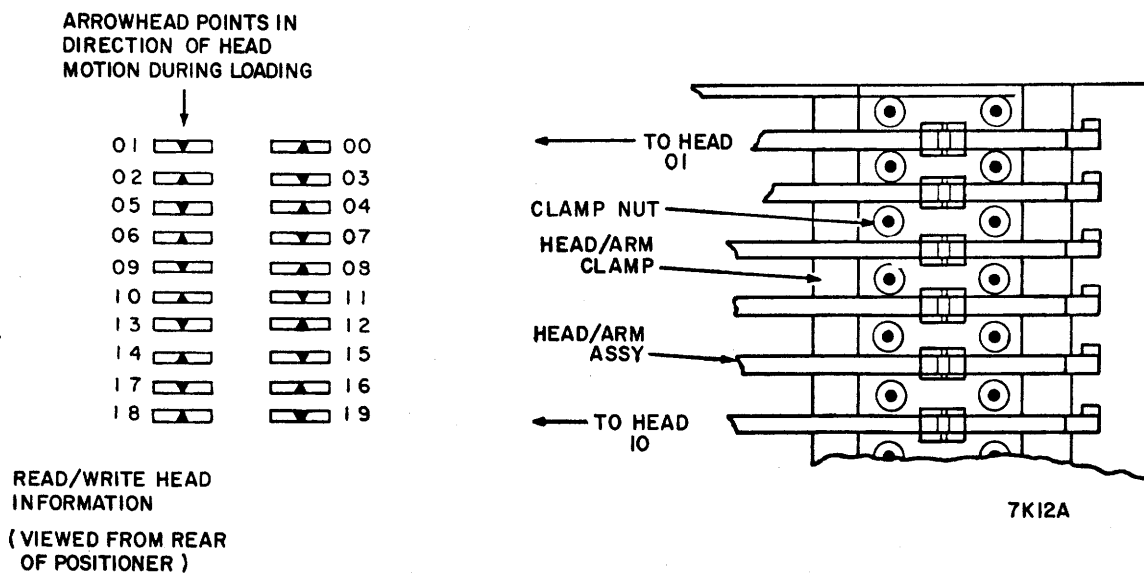

Figure 6-6. Head/Arm Replacement
6. Refer to Figure 6-6 to determine location of faulty head/arm assembly. Disconnect related head plug at card E01 or F02.
7. Remove clamp screw securing hold down clamp against faulty head/arm assembly (Figure 6-6 and Table 6-1) using tools 12218425 and 87016703. Set screw and hold down clamp aside.
Read/Write Head/Arm No. (See Figure 6-6)	Read/Write Head Replacement Part Number
14. Assemble hold down clamp over head (Figure 6-6). Secure hold down clamp and head with clamp screw. Use tools 12218425 and 87016703 to tighten clamp screw to 6.0 ± 0.5 in.-lbs.